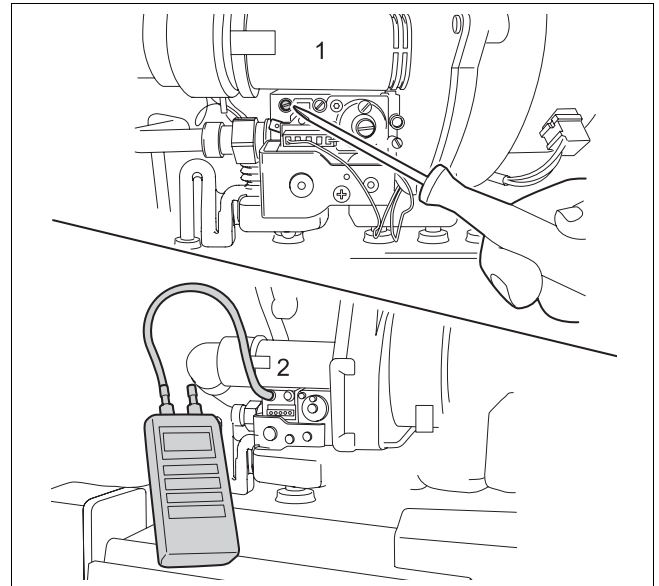

Fig. 5 Measuring the inlet gas pressure
- Close the gas shut-off valve. Loosen the screw plug on the inlet gas pressure testing nipple by two turns (fig. 5, pos. 1).
- Connect the pressure gauge connection hose to the testing nipple (fig. 5, pos. 2).